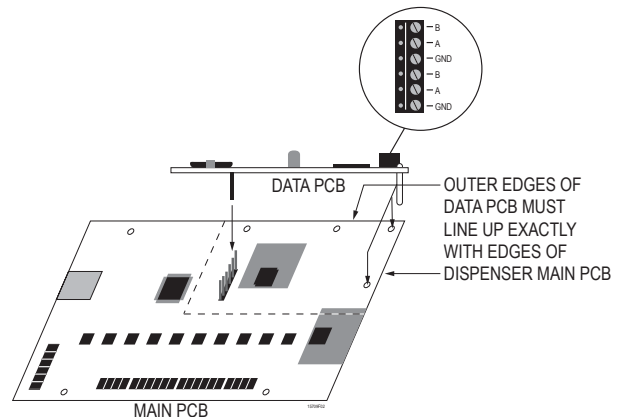

Figure 4. Data PCB alignment over main PCB
3. Place the Data PCB over the Main PCB as shown. The six pins of pin connector J4 (labeled "Data Module") near the center of the main PCB must insert into the complementary connector on the underside of the Data PCB. The pins must be lined up correctly, with one pin in each hole with the outer edges of the Data PCB exactly aligned with those of the dispenser main PCB. Be careful not to bend the pins. See Figure 4.